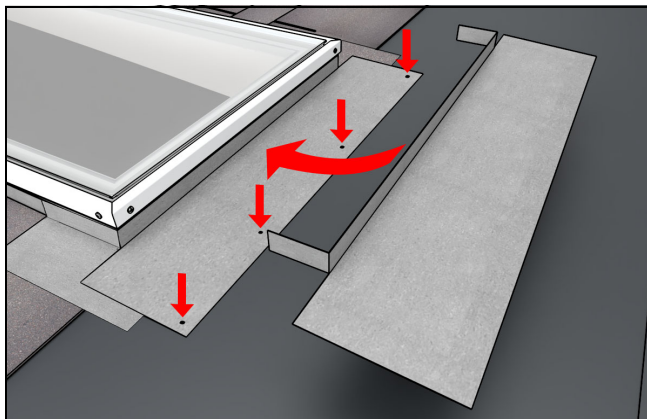

Figure 21
18. Head jamb saddle installed with tabs bent around jamb step flashing. See Figure 21.